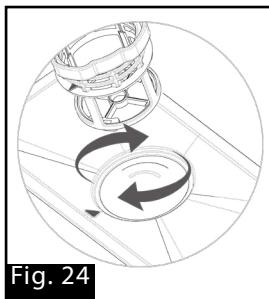

Fig. 24
5. Put the filter back after it has been cleaned (Fig. 24). The cylinder filter should be assembled clockwise until the triangle mark of the filter and filter net are at the same point.